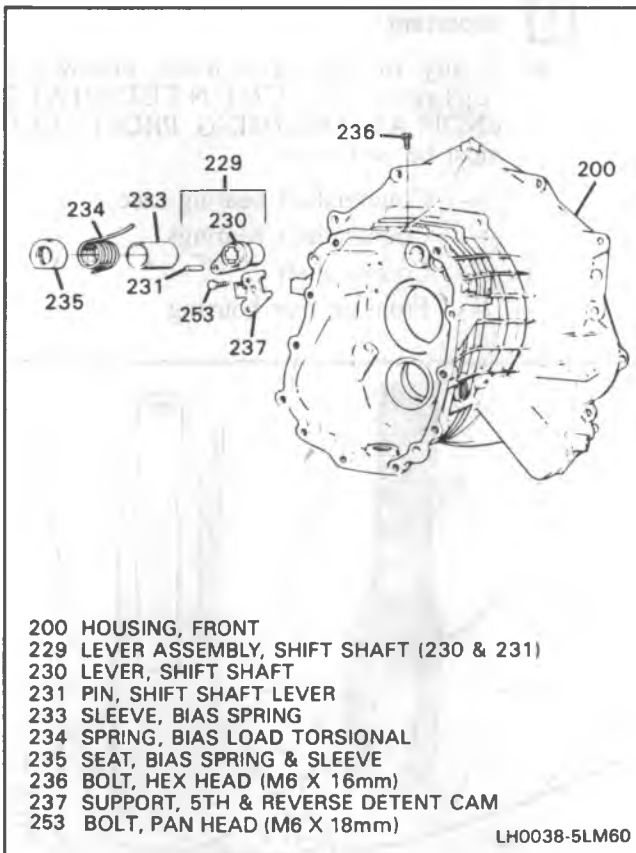
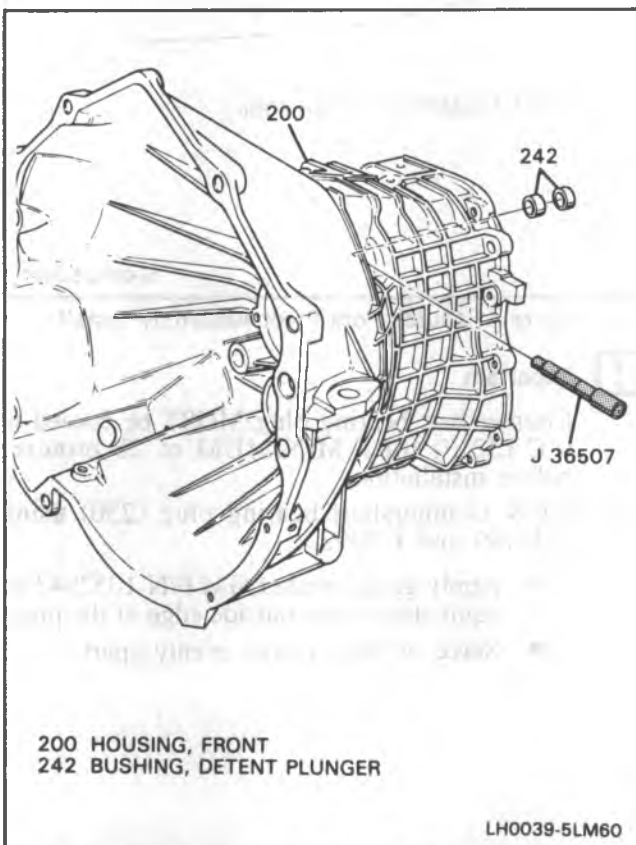
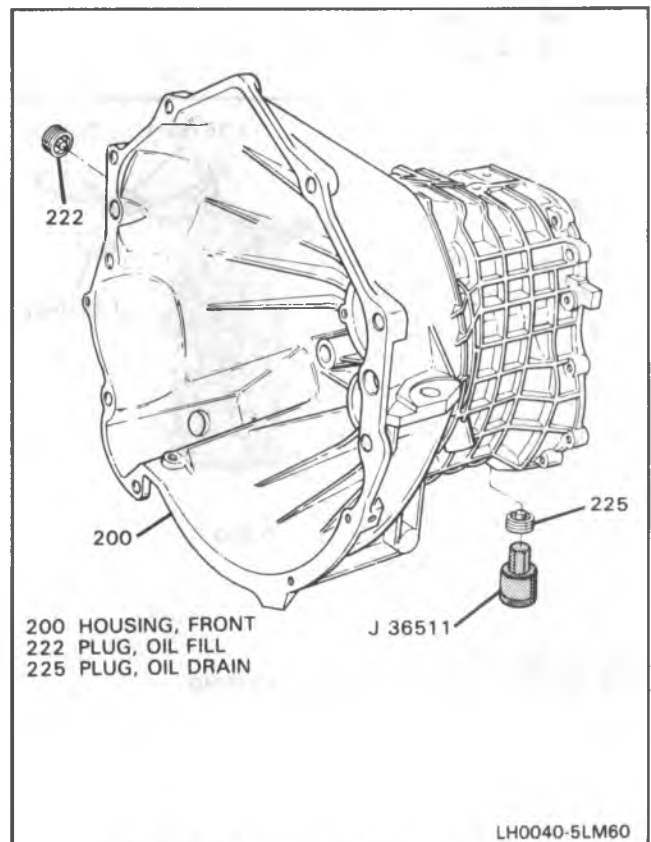

Figure 37 Removing Bias Spring Components
Figure 38 Removing Detent Plunger Bushings
Figure 39 Removing Drain/Fill Plugs
7. Bolt (236) bias spring and sleeve seat (235), bias load torsional spring (234), bias spring sleeve (233), and shift shaft lever assembly (229) (Figure 37).
8. Bolt (204), detent cam support (237).
9. Two detent plunger bushings (242), using J 36507 (Figure 38).
10. Breather assembly (223).
11. Oil fill plug (222) and oil drain plug (225), using J 36511 (Figure 39).